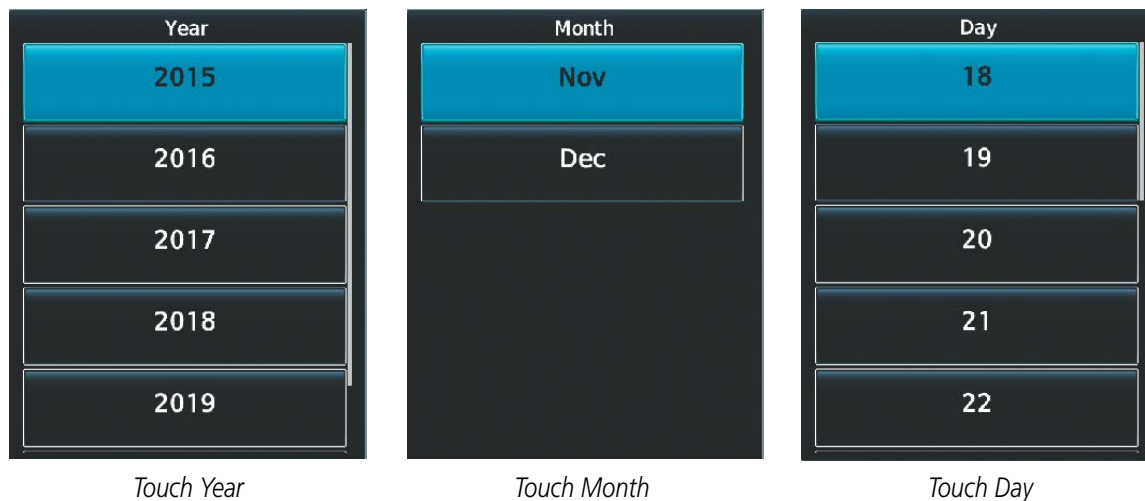

Figure 8-107 Event Date Entry
- 12) Touch the desired year, as in Figure 8-107, then the month followed by the day.